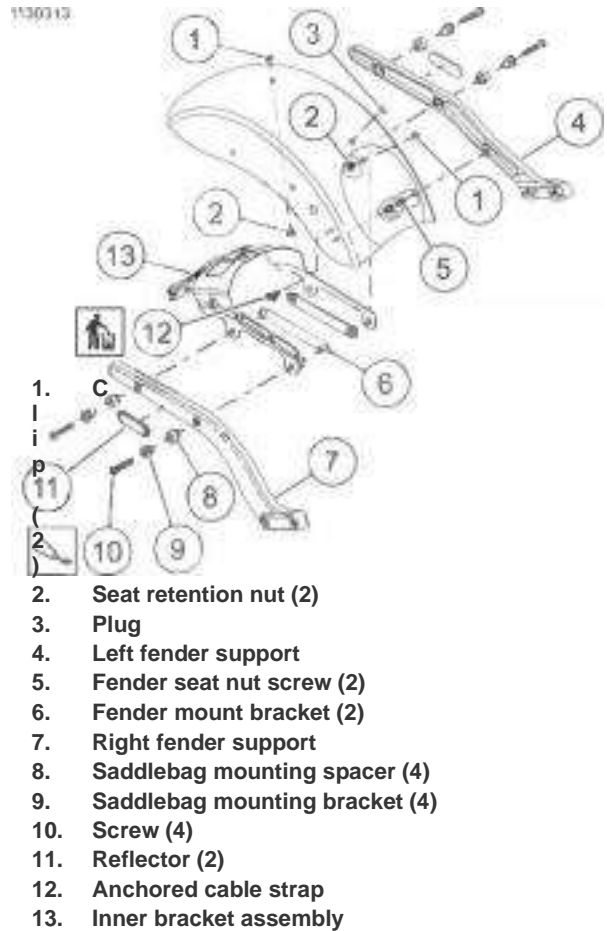

Figure 3-134. Chopped Fender: License Plate Bracket With Lights
1. See Figure 3-134. Remove rear fender support.
- a. Remove screws (10).
- b. Remove saddlebag mounting bracket (9) and spacer (8).
- c. Remove fender mount bracket (6).
- e. Remove inner bracket assembly (13).
2. Discard cable strap (12).
- a. Hold nut (2).
- b. Remove clip (1).
4. Disassemble inner bracket assembly (13).
1. See Figure 3-134. Install reflectors (11).
2. Assemble inner bracket assembly (13).
- a. Position nut (2).